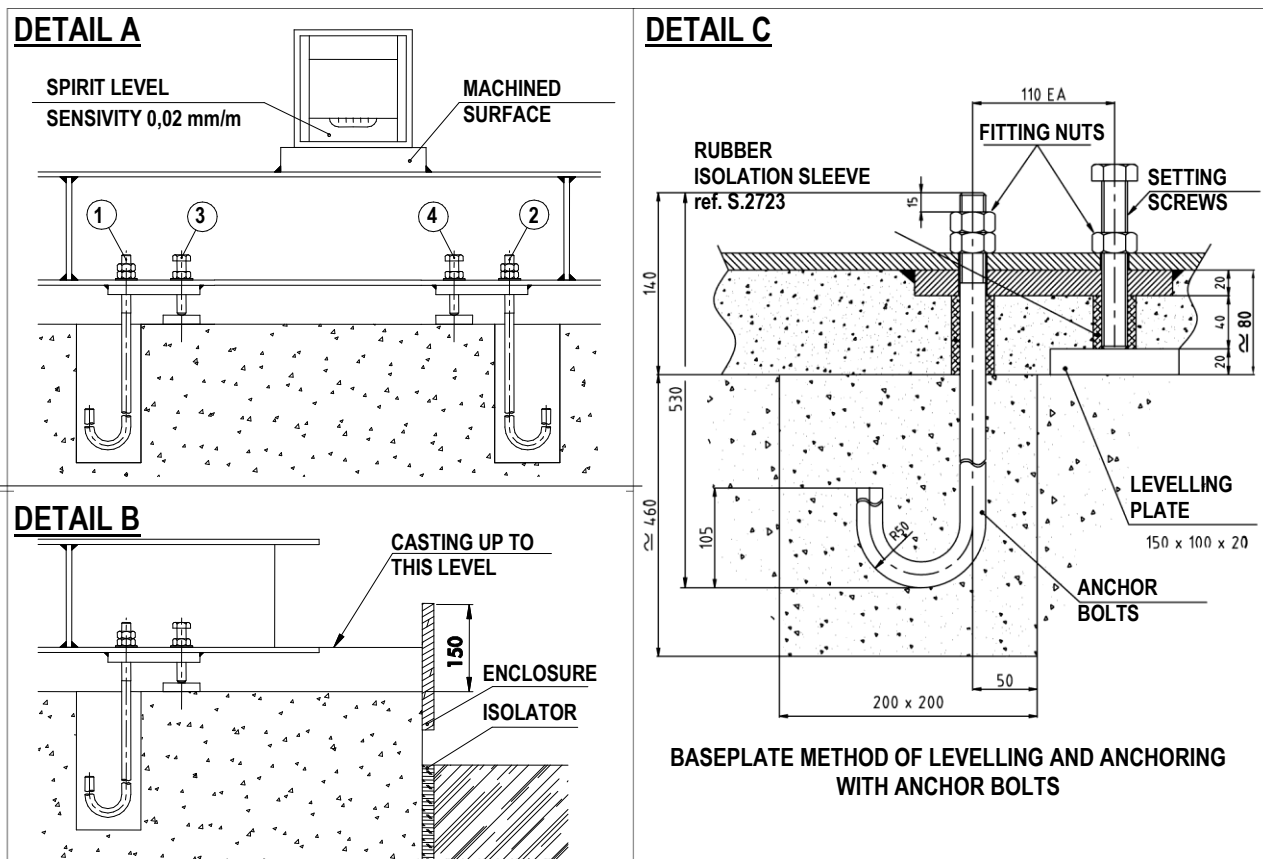

Fig. 2.4
2. Raise the base plate about one meter above the solid concrete. Fit the levelling screws and the anchor bolts as shown in detail A of Fig. 2.4. Check the 15 mm and 50 mm positions.
6. Check that the base-plate is leveled by using a spirit level sensitive to 0.02 mm/m or if possible with a laser alignment tool. This check shall be made longitudinally and transversally on all finished surfaces. The flatness shall be to 0.02 mm/m. The levelness is adjusted by using the spirit level on the finished surface as shown in detail C of Fig. 2.4 and using the levelling screw/anchor bolt sets.
8. Clean the surfaces of the solid concrete and prepare it for flow the cement. Provide an enclosure as shown in detail B of Fig. 2.4. If it is installed in the open air, provide appropriate drainage for rainwater, by taking into account the base-plate shape. Flow low shrinkage cement under the base-plate up to the level indicated in detail B. Do not use mechanical vibrators which may compromise the surface levelling obtained.